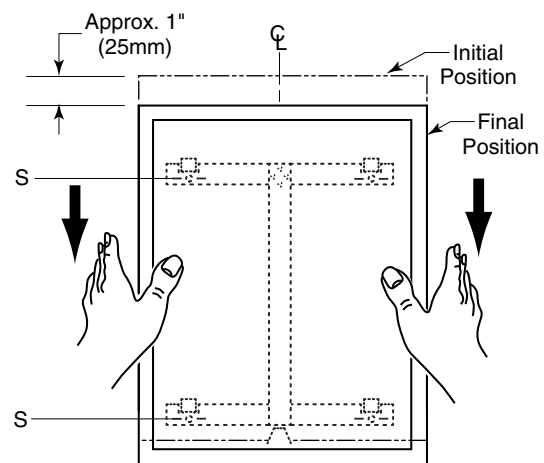

Figure: 4
**Lock Tab Design** — Locking devices automatically secure mirror to concealed wall hanger when it is lowered into final position (see figure 4). Locking device may be unlocked by sliding Key between mirror and wall and depressing tab on back panel. If key is required, please contact factory.